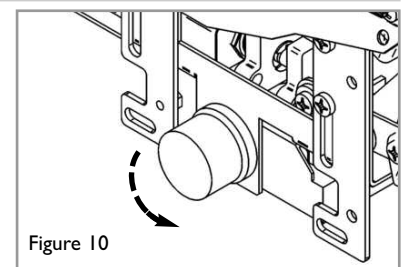

Figure 10
**Ensure appliance is off and cool.** The battery is located in the front of the ignition unit, on the right hand side of the burner (shown in figure 10). Unscrew the battery holder cap. Insert 1 x 'AA' (1.5 volt) battery. Replace cap.